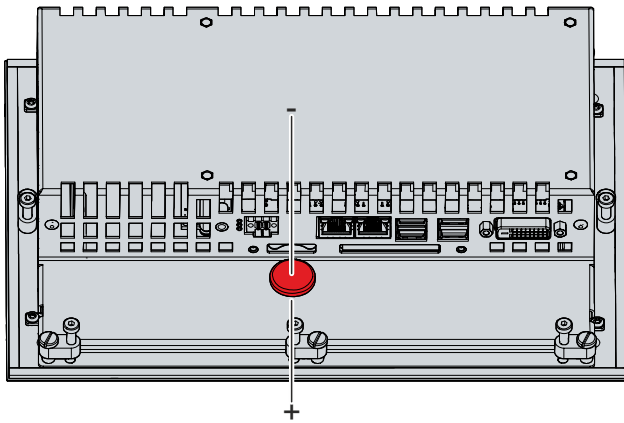

Fig. 22: Replacing the battery
2. Insert the new battery into the PC by hand. Make sure that the polarity is correct as shown in Fig. 22.